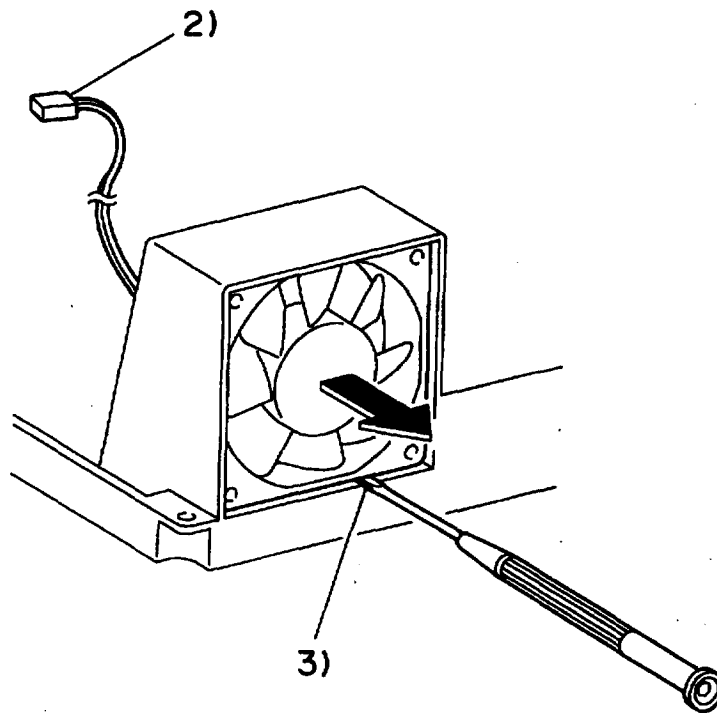

Figure 4-7. Removing the Exhaust Fan from the Bottom Cover
3. Use a screwdriver to gently pry the Fan out of the Bottom Cover (Figure 4-7).